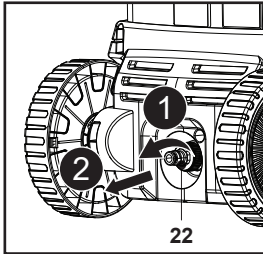

Fig. 21
1. Remove the water inlet adaptor (22) from the water inlet connector (12) (Fig. 21).